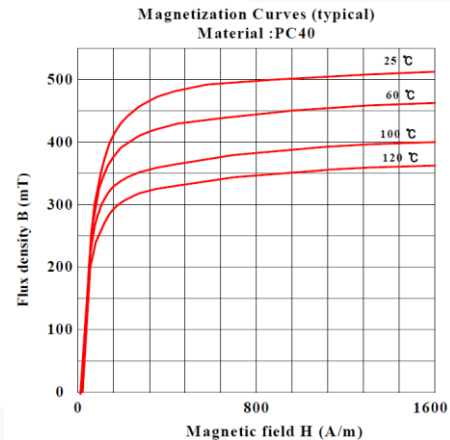

Figure 25. Typical B-H Characteristics of Ferrite Core (TDK/PC40)
Figure 25 shows the typical characteristics of ferrite core from TDK (PC40). Since the saturation flux density (B_{sat}) decreases as the temperature goes high, the high temperature characteristics should be considered. If there is no reference data, use $B_{sat} = 0.3 \sim 0.35$ T. Since the MOSFET drain current exceeds I_{ds}^{peak} and reaches I_{LIM} in a transition or fault condition, I_{LIM} is used in equation (8) instead of I_{ds}^{peak} to prevent core saturation during transition.